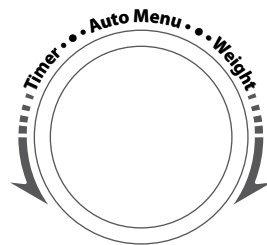

Fig. 3 Selector knob
- 2 Turn the Selector knob (see Fig. 3) to adjust the hour figures.